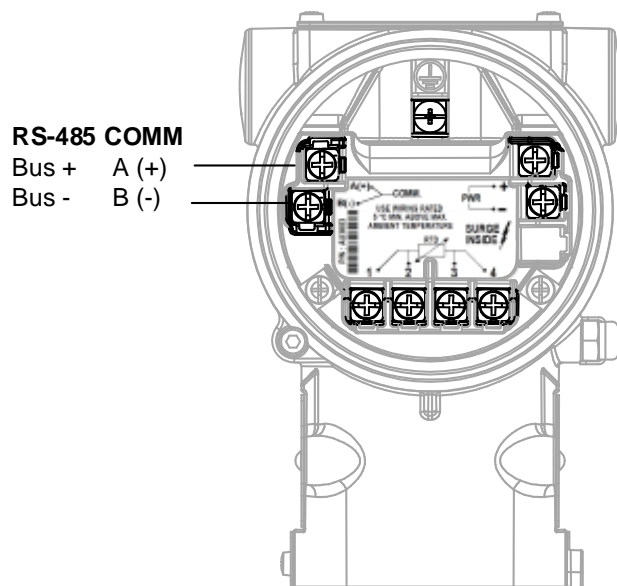

Figure 52: RS-485 communication wiring
1. Verify that the communication wiring Bus (+) is wired to COMM A (+), Bus (-) is wired to COMM B (-), and that the terminal connections are tight (Figure 52).